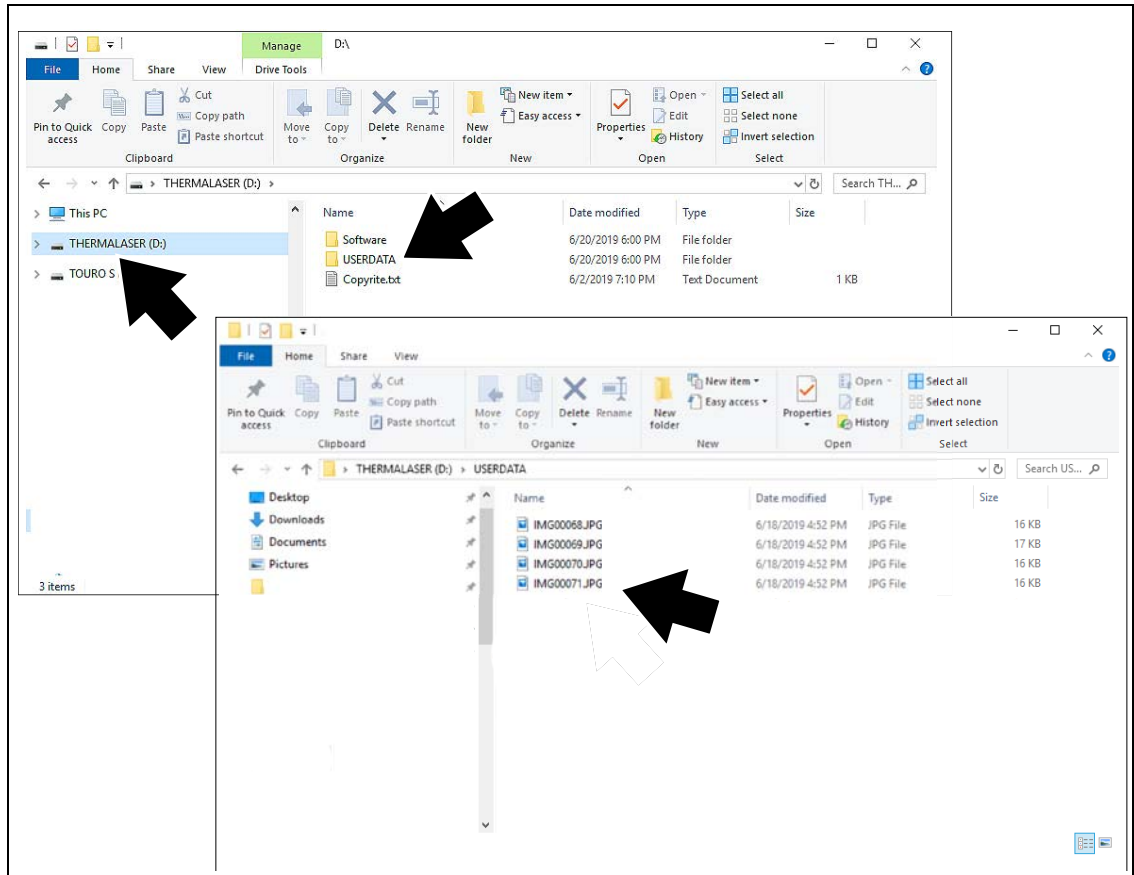

Figure 4-11
4. Your PC will recognize the Thermal Laser as an external storage device (e.g. **THERMALASER Drive (E:)**) (Figure 4-11).
5. Using the standard Windows applications on your PC (e.g. Windows Explorer or Computer), select your saved screenshots from the “USERDATA” folder (Figure 4-11).